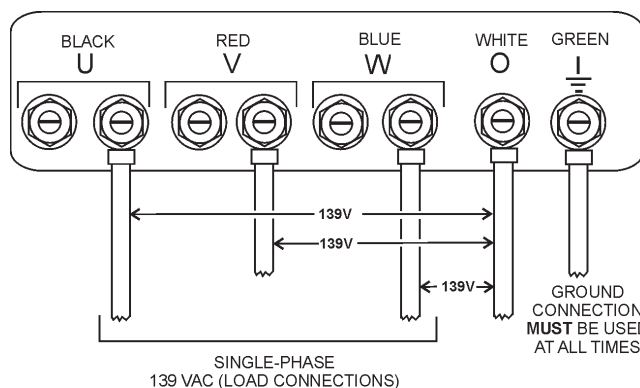

Figure 24. UVWO Terminal Lugs 1Ø-139V Connections
2. Connect the load wires to the UVWO terminals as shown in Figure 24.